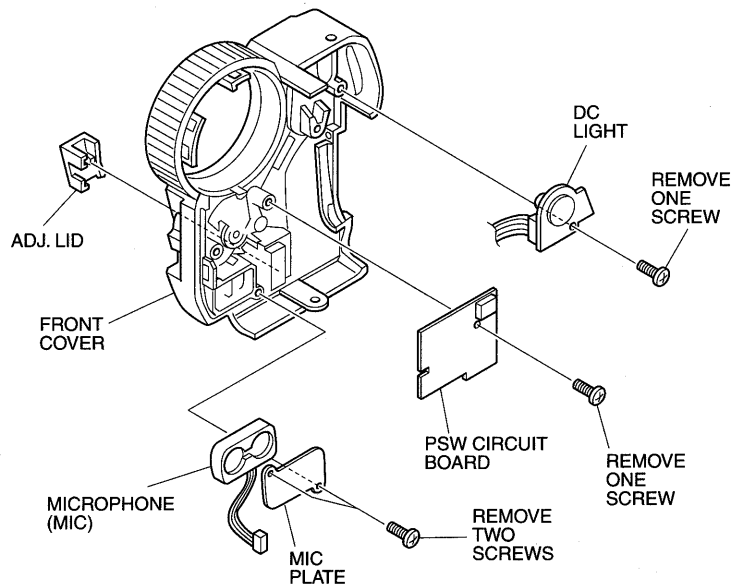

Fig. 2-2
2.2 PSW Circuit Board, Microphone Unit, DC Light, Front Cover (Fig. 2-2)